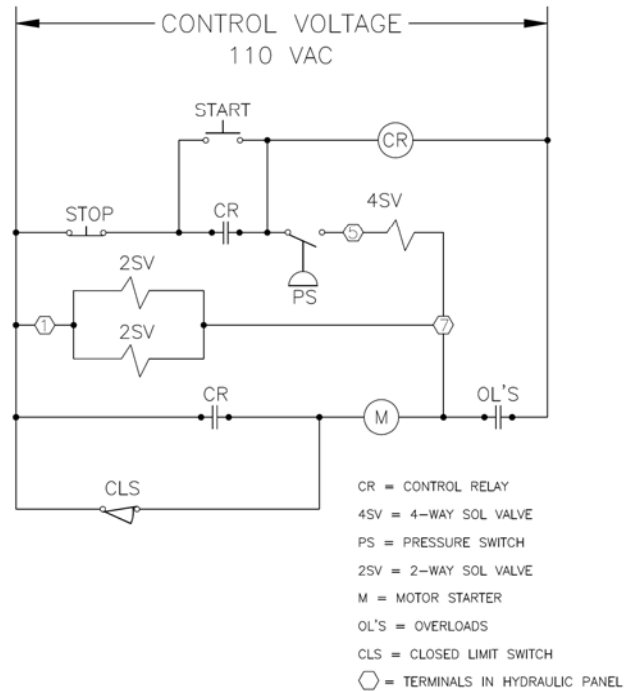

Figure 2. Typical Wiring Diagram
The air/oil panel Supply (E) is connected to a source of pressurized air (typically 80-100 psig). The panel is connected to an air cylinder and an oil slave cylinder on the opposite side of the actuator. The opening and closing of the pump control valve is controlled by the air/oil hydraulic panel which is wired to the pump controls. A typical wiring method is shown in Figure 2.
There are four terminal connections in the internal cabinet junction box. Connect the ground terminal to a suitable ground wire per local codes. Connect terminal (5) to the 110V "Open" control signal from the pump motor control station. There are many different configurations possible, but a common one is shown in Figure 2. Connect Terminal (1) to the high side of the control voltage. Connect (7) to the low side of the control voltage or to the motor overload circuit as shown in Figure 2. Replace the cover on the terminal junction box.
As shown in Figure 2, a closed limit switch (CLS) located on the pump control valve is needed to signal the pump circuit that the valve is closed and it is safe to shut down the pump. The wiring from the valve limit switch assembly is connected directly to the pump control panel and not the hydraulic panel.